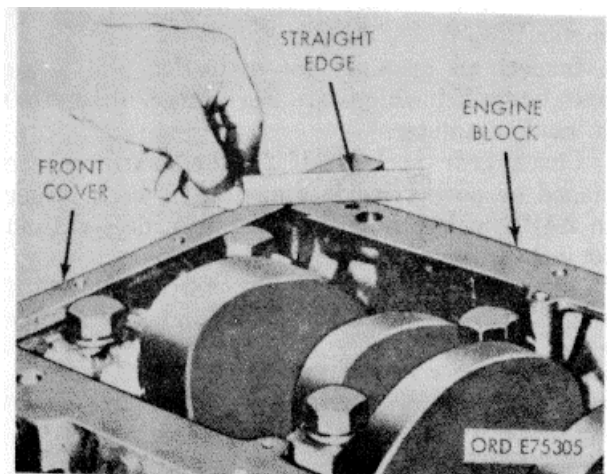

Figure 3-16. Front cover to block alinement check.
c. Check that the bottom of the front cover and cylinder block are level with a straight edge. There must be no variation (fig. 3-16).
(1) Position seal with open lip to inside.